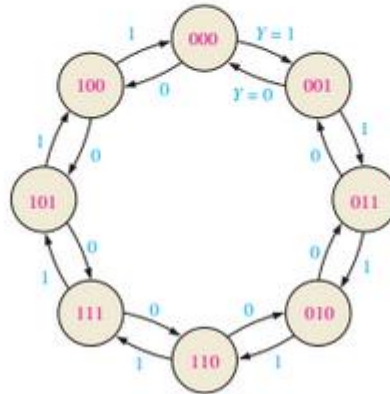

FIGURE 9-33 State diagram for a 3-bit up/down Gray code counter.
Step 1: The state diagram is shown in Figure 9-33. The 1 or 0 beside each arrow indicates the state of the UP/DOWN control input, Y .